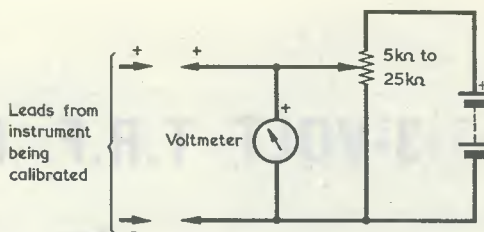

Fig. 4. The external components required for calibration.
N.B. Additional components to those listed here (see text and Fig. 4) are required for calibration.
In order to calibrate the instrument it is necessary to have available a separate voltmeter, a new, separate, 9 volt battery, a new 1.5 volt cell, and a potentiometer of anything from $5k\Omega$ to $25k\Omega$. These components are connected up as shown in Fig. 4. Starting with the 9 volt range, and using the separate 9 volt battery in the battery position shown in Fig. 4, the external potentiometer is adjusted to cause 0.5 volts to be indicated by the meter in Fig. 4. The instrument being calibrated has S_2 switched on and S_1 set to the 9 volt range, after which VR_2 is adjusted to give a zero reading in M_1 . A pencil mark is then made on the appropriate paper scale on the disc, or on whatever other type of scale is employed. The process is repeated in steps of 0.5 volts up to 9 volts. Intermediate marks of 0.1 volt spacing can be made later by eye. The 1.5 volt cell is then substituted in Fig. 4 and the potentiometer of Fig. 4 adjusted to give a reading of exactly 1.5 volts. S_1 in Fig. 2 is switched to the 1.5 volt range and VR_3 is then adjusted so that M_1 gives a zero reading with VR_1 at maximum. Calibration in steps of 0.1